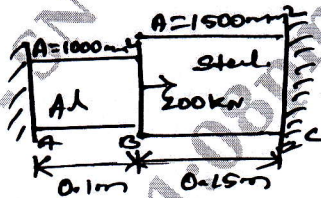

Fig.Q2(c)
- A composite bar is shown in Fig.Q2(c). Determine stress developed in each member. $E_{al} = 0.7 \times 10^5$ N/mm², $E_{steel} = 2 \times 10^5$ N/mm².